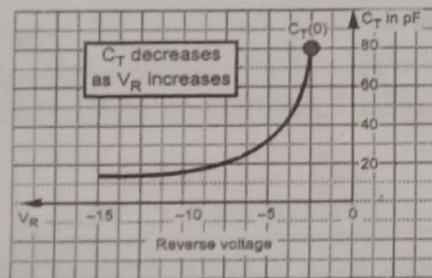

Fig. Q.15.2
- As the reverse biased applied to the diode increases, the width of the depletion region (W) increases. Thus the transition capacitance C_T decreases.
- The variation of C_T with respect to the applied reverse bias voltage is shown in the Fig. Q.15.2. As reverse voltage is negative, graph is shown in the second quadrant.